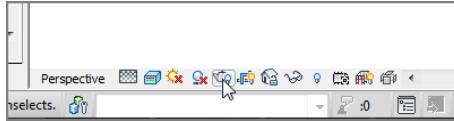

FIGURE 19.4: The Show Render Dialog button
21. Click the Show Render Dialog button on the View Control bar, as shown in Figure 19.4.